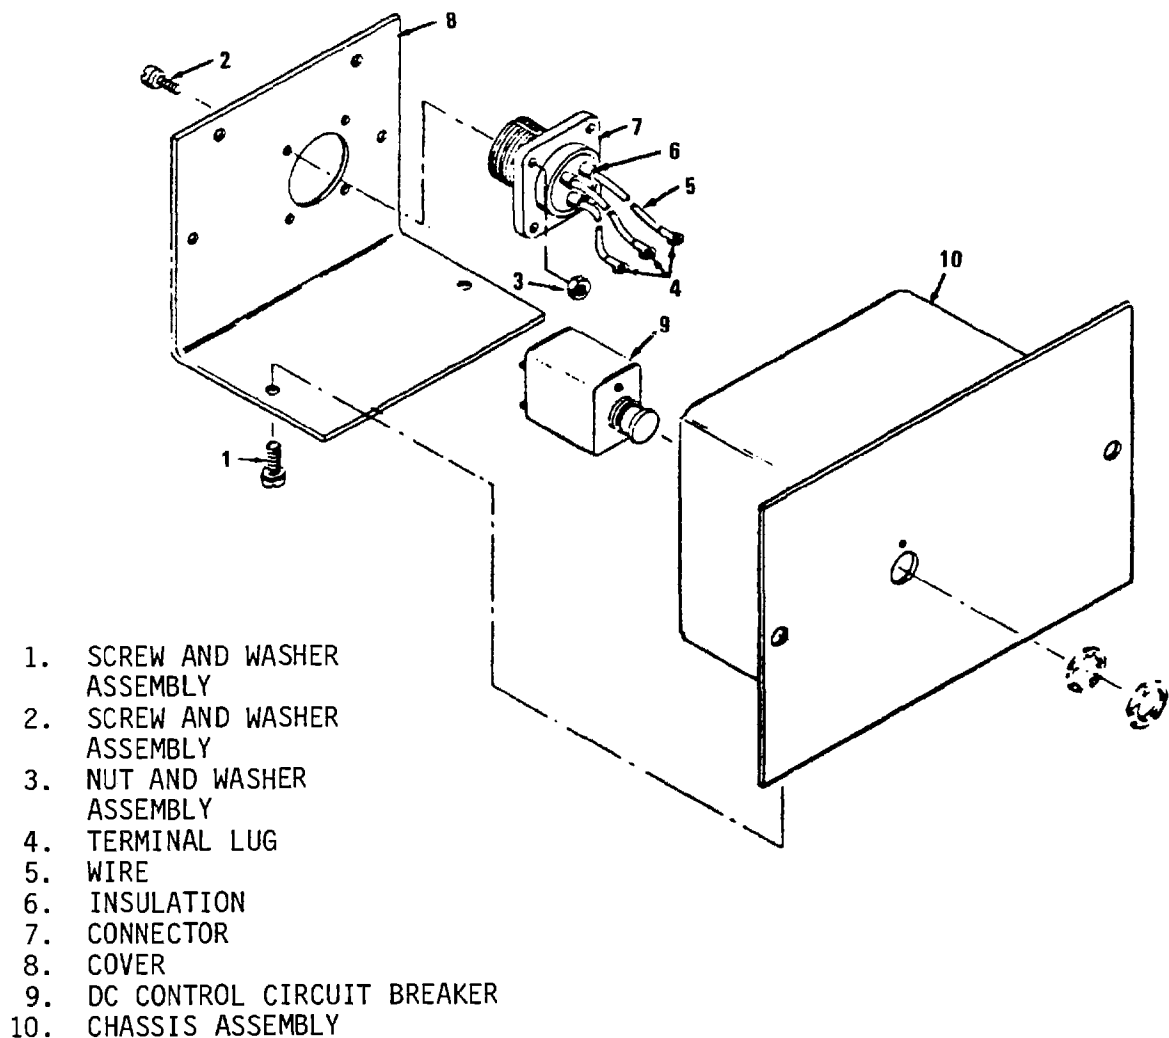

Figure 4-21. DC Control Circuit Breaker, Removal and Installation
b. Removal. Remove DC control circuit breaker as illustrated in figure 4-21.
(1) Disconnect harness from circuit breaker connector from inside generator compartment. Connect harness after test.
(2) Test circuit breaker for continuity at connector J39. There should be continuity between connector pins A, B, and C when circuit breaker is energized and when deenergized between pins B and C only. Replace defective circuit breaker.
d. Installation. Refer to figure 4-21 and install DC control circuit breaker as follows:
(1) Remove four screw and washer assemblies (1) and remove cover (8) as far as wires (5) will allow.
(2) Tag and disconnect wires (5) from DC control circuit breaker (9).
(3) Using appropriate socket wrench, remove locknut and washer that secures DC control circuit breaker to chassis assembly (10) and remove circuit breaker.